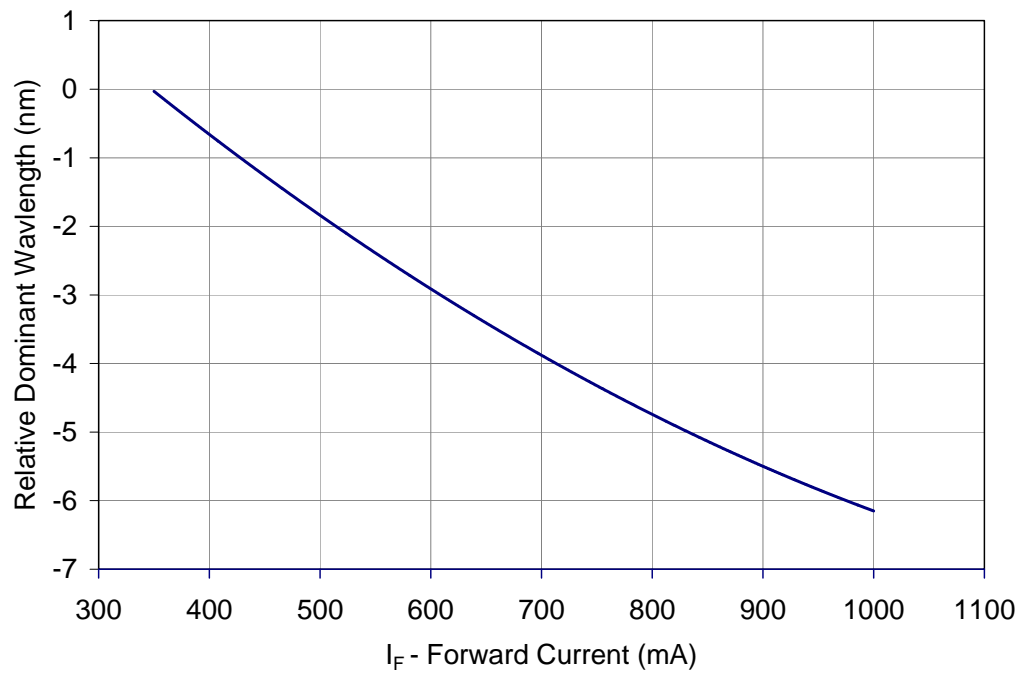

Figure 6: Typical dominant wavelength shift vs. forward current @ T_c = 25°C.
3. Refer to Figure 6 for typical dominant wavelength shift over forward current.
- Refer to Figure 6 for typical dominant wavelength shift over forward current.